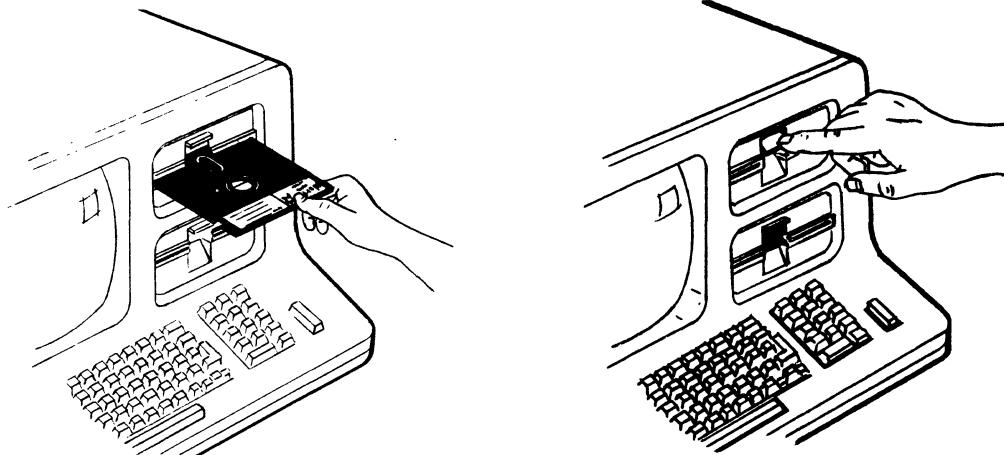

Figure 2-3.
2. Hold the diskette on the label end, with the label facing up and the write protect notch on the left. (see Figure 2-3).